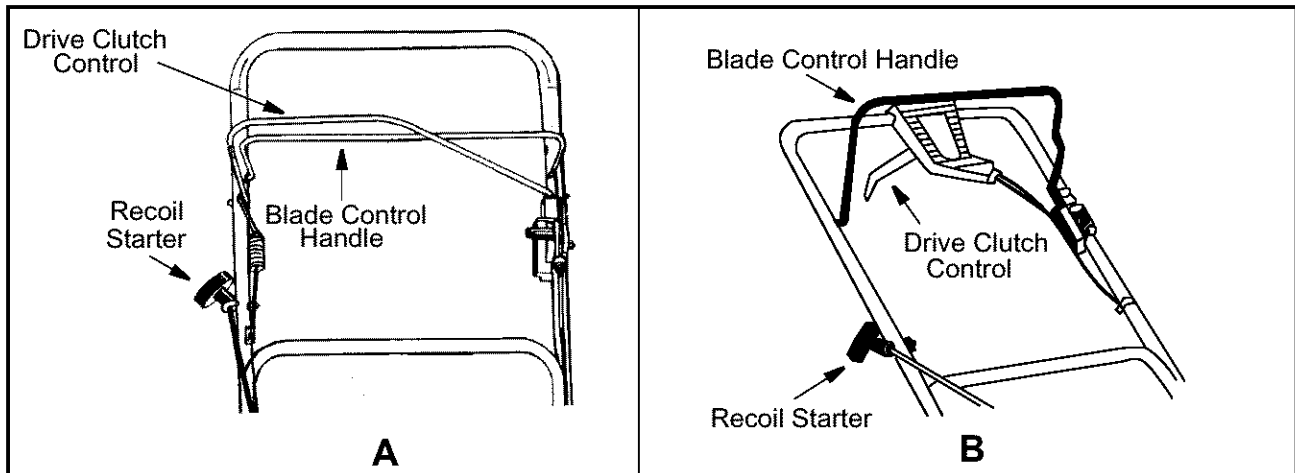

Figure 8
The blade control handle is located on the upper handle of the mower. See Figure 8. The blade control handle must be depressed in order to operate the unit. Release the blade control handle to stop the engine and blade.
The recoil starter handle is attached to the handle. See Figure 8. Stand behind the unit in the operating position to start the unit.
Squeeze the drive clutch control against the upper handle to engage drive. Release the drive clutch control to slow down when negotiating an obstacle, making a turn or stopping. There are two different styles of drive clutch controls that are available. See Figure 8.
- Grasp starter handle and pull the rope out slowly until the engine reaches the start of compression cycle (rope will pull slightly harder at this point). Let the rope rewind slowly. See Figure 8.
- Pull rope with a rapid, continuous, full arm stroke. Keep a firm grip on starter handle. Return it slowly to the rope guide. See Figure 8.